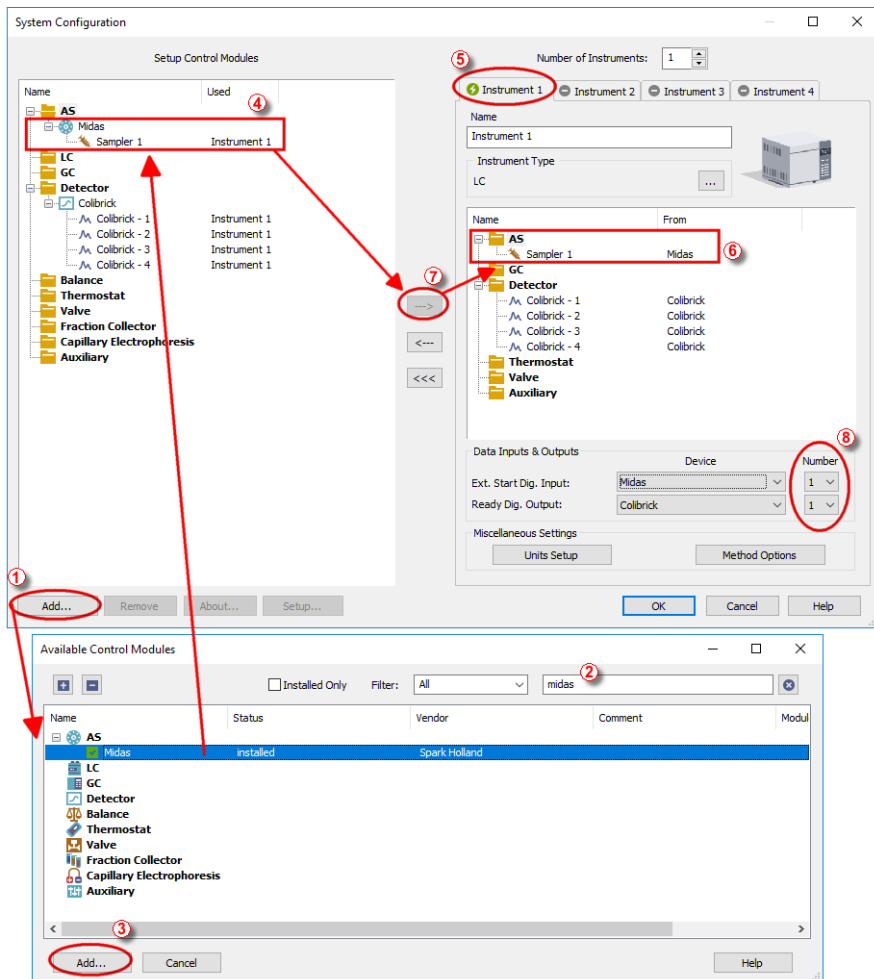

Fig 5: System Configuration
- Press the **Add** button ① (see **Fig 5** on pg 6.) to invoke the **Available Control Modules** dialog.
- You can specify the searching filter ② to simplify the finding of the driver.
- Select the **Midas** sampler and press the *Add* ③ button.